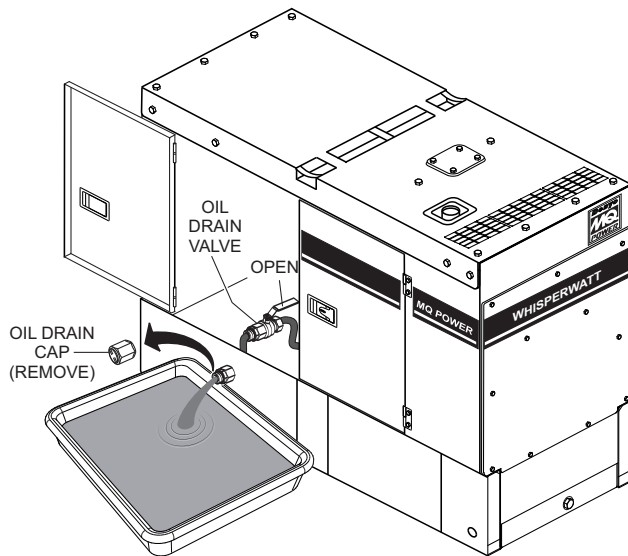

Figure 55. Draining Engine Oil
4. Remove the **oil drain cap** (Figure 55).
5. Place the **oil drain valve** in the open position (Figure 55) and allow the oil to drain into a suitable container.